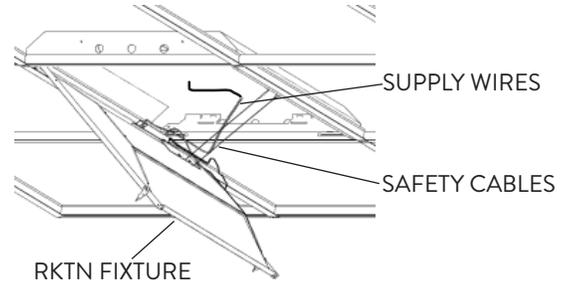

FIG. 12
- 5 Hook the Safety Cables into the existing Housing. Attach the Power Supply Wires (Fig. 12). Please refer to the wiring diagram.